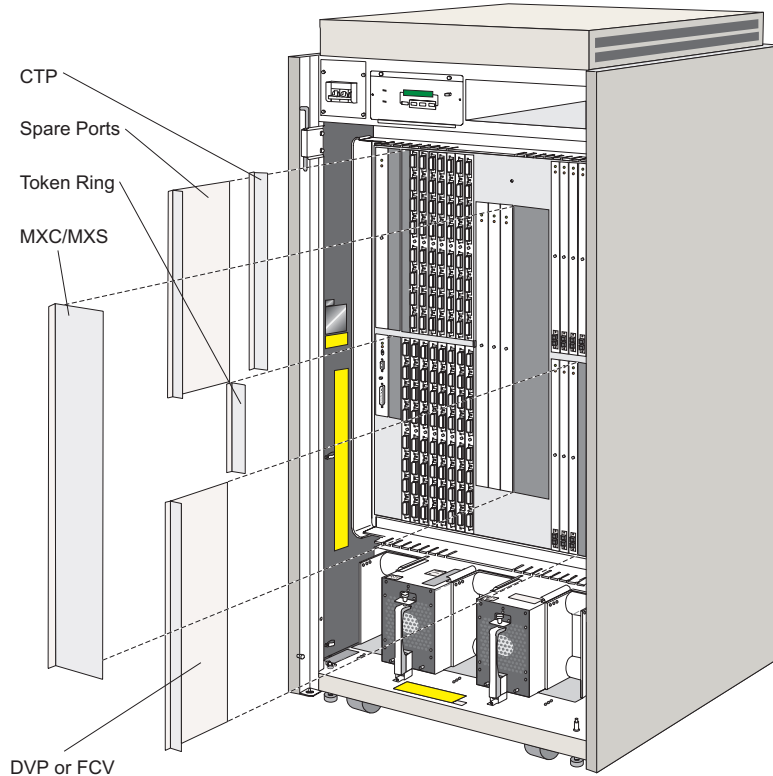

Figure 3-45. Spacer Cards
Use the following procedure to remove any of the spacer cards. Refer to Figure 3-45.
2. Identify the appropriate spacer card. Refer to Figure 3-45.
Use the following procedure to replace any of the spacer cards. Refer to Figure 3-45.